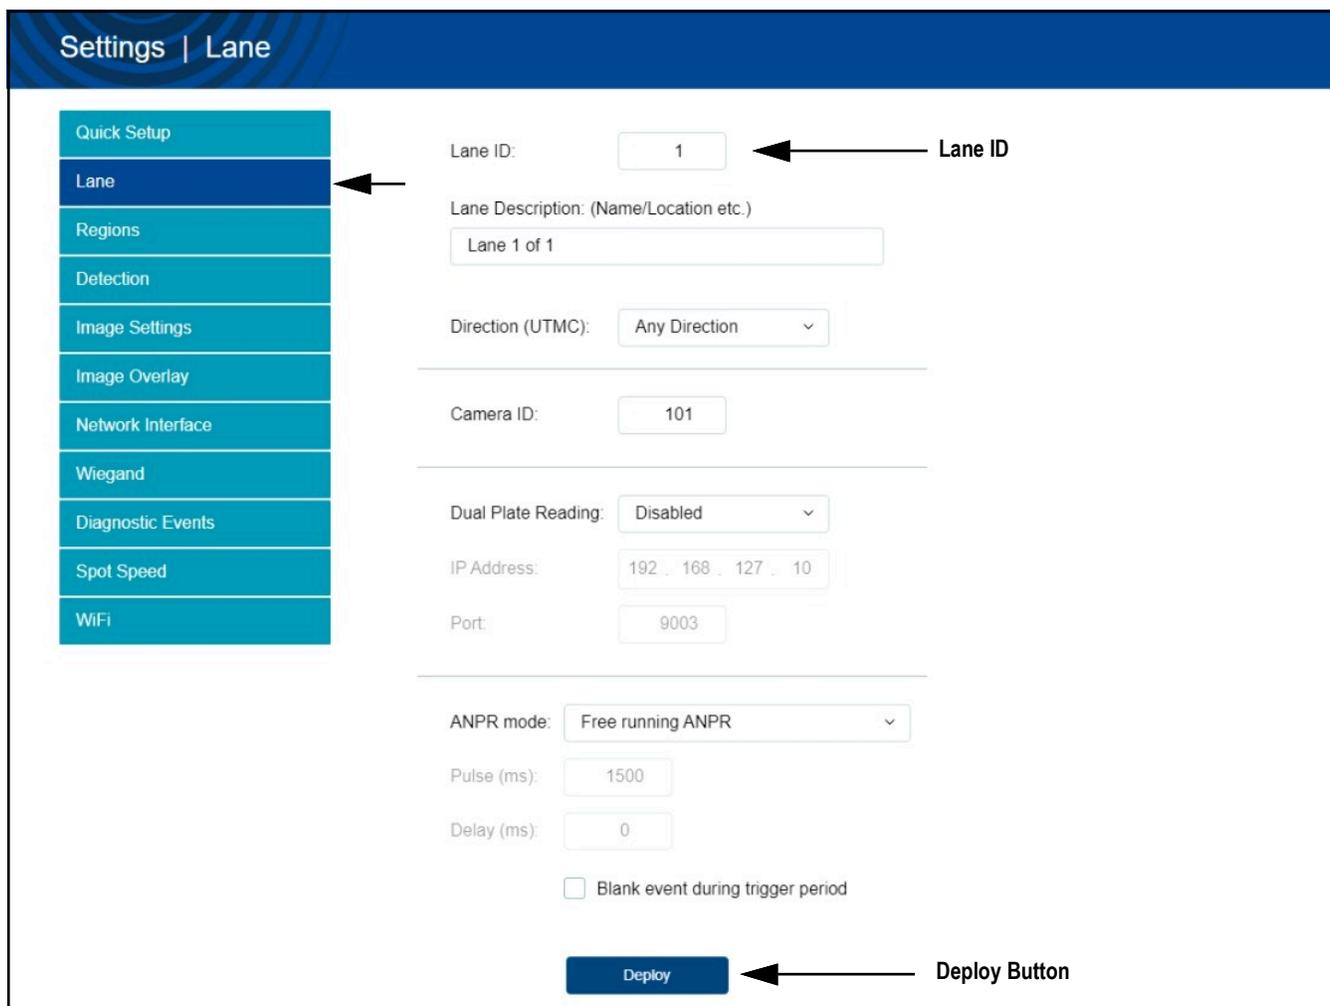

Figure 11-3. Lane Parameters
**NOTE:** Locate the Lane ID parameter in the Lane Menu of the TagMaster® CT45 online software (Section Figure 11-3. on page 146).